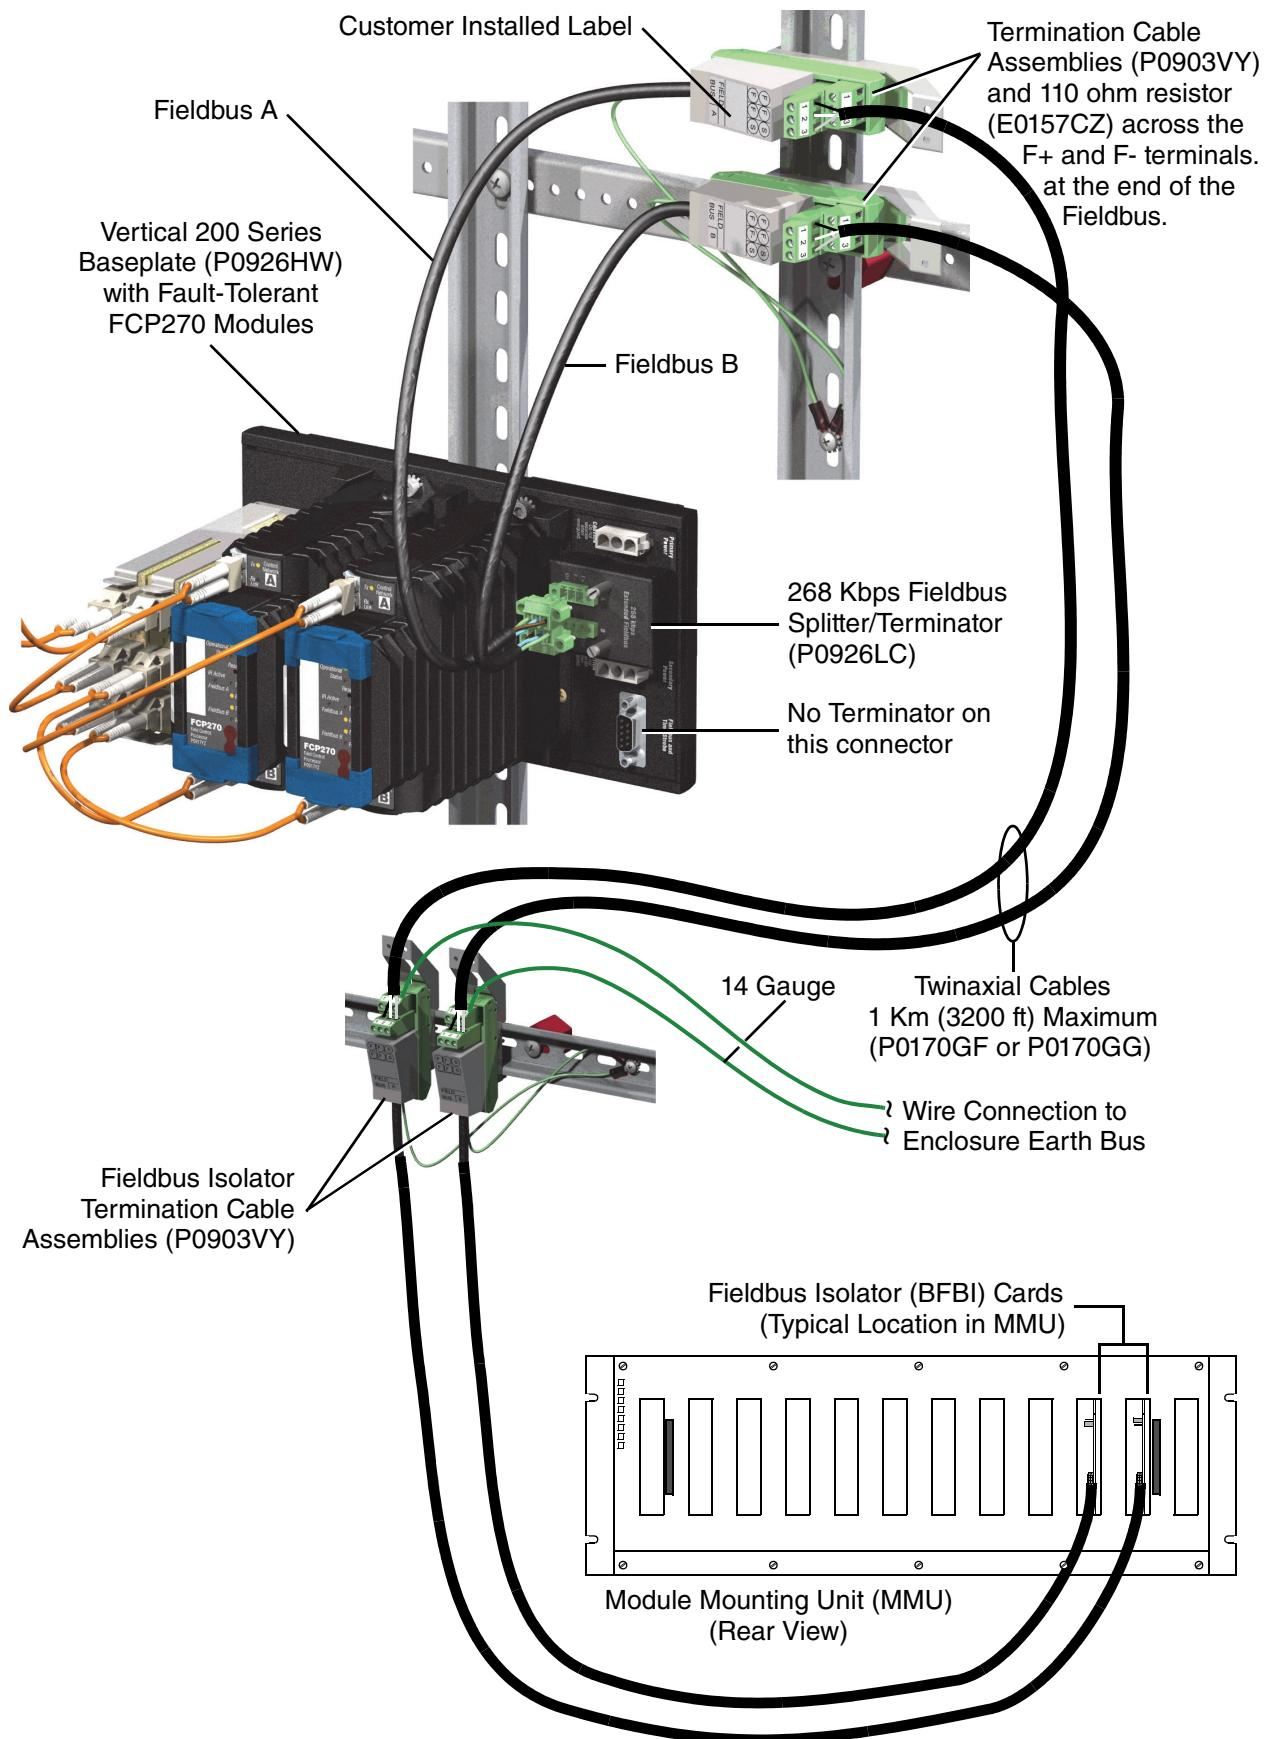
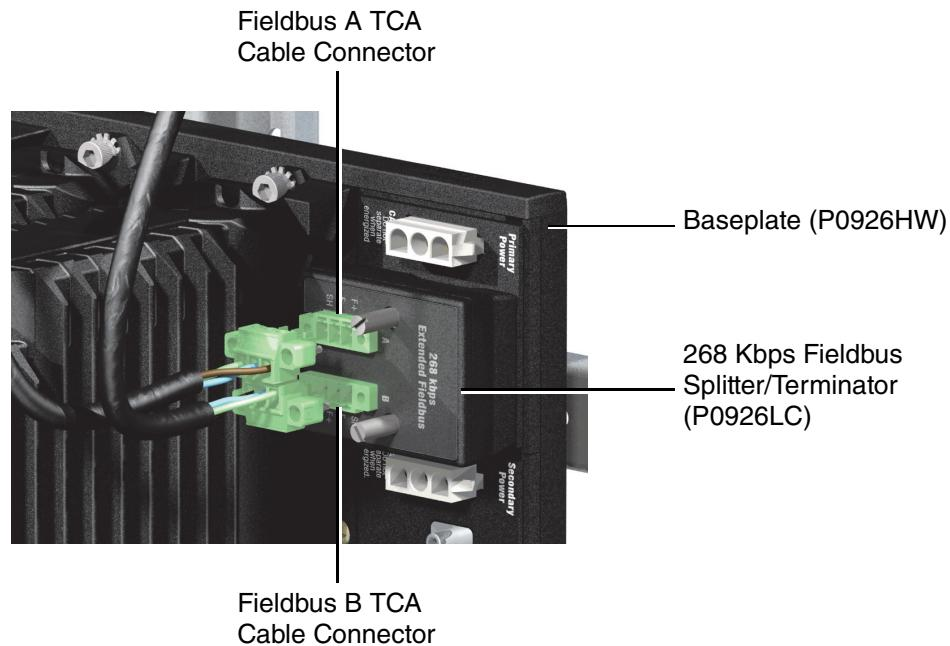

Figure 2-28. Cabling Fieldbus Isolator Cards to an FCP270 Baseplate
Figure 2-29. TCA Cable Connection to 268 Kbps Fieldbus Splitter/Terminator
Cabling an FCP270 baseplate to the BFBI Fieldbus Isolators consists of extending the remote 268 Kbps fieldbus from the isolators (see Figure 2-28). This extension, used between enclosures, involves the use of termination cable assemblies (TCAs) and twinaxial cable to provide cable connections between primary and extended fieldbus segments, for a maximum fieldbus length of 1 Km (3200 ft). If the fieldbus is non-redundant, only one TCA is connected to the fieldbus splitter/terminator (P0926LC) which is shown in Figure 2-29. TCA part number P0903VY includes a strain relief bracket, nylon cable tie, labels for bus A and B, and 110 ohm terminating resistor. You must install the label to the TCA.
2. Connect the fieldbus splitter/terminator (P0926LC) to the “Fieldbus and Time Strobe” connector on the FCP270 baseplate (see Figure 2-28).
3. Make the cable connection(s) to the fieldbus splitter/terminator as shown in Figure 2-29.